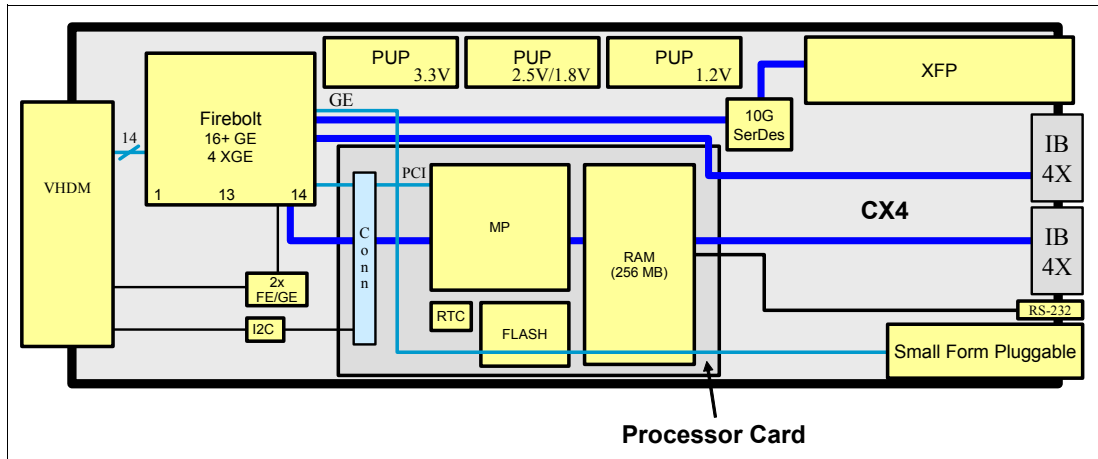

Figure 4-5 Nortel 10 Gb Ethernet Uplink Switch Module block diagram
The Nortel 10 Gb Ethernet switch block diagram is shown in Figure 4-5 on page 57. As shown in the diagram, switching is performed by the Broadcom “the BCM part number or a generic label” chip. The Management Processor (MP) on this switch, which supports all switch management, is the PPC 8245 chip.